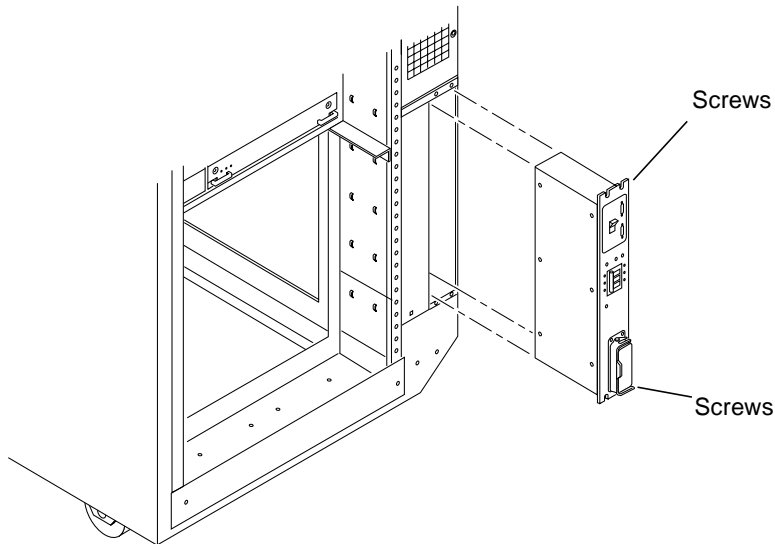

FIGURE E-3 Replacing the Power Sequencer
5. Remove the two screws at the top of the power sequencer (FIGURE E-3).
3. **Replace the two screws at the bottom of the power sequencer (FIGURE E-3).**